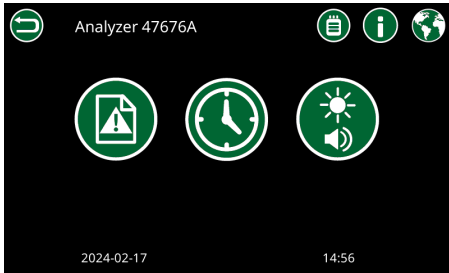

Figure 5. Settings Screen
By tapping the Settings icon  in the Home Screen, the Settings screen will appear, see Figure 5, allowing the operator to carry out the following settings:
1. Tap on the Time and Date icon. See Figure 5.
1. Tap on Brightness and Volume icon. See Figure 5.